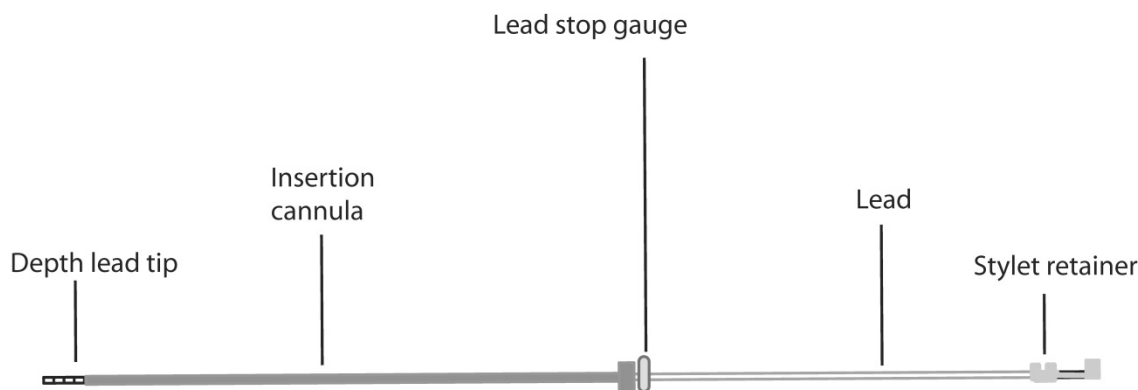

Figure 8: Position the stop gauge directly above the insertion cannula in order to gauge the full insertion distance of the depth lead.
- Before placing the insertion cannula onto the frame, insert the depth lead into the insertion cannula and place the stop gauge (provided) on the lead directly above the cannula, such that the lead tip will reach the implant target after the lead is fully advanced down the cannula. The stop gauge should meet the top of the cannula once the lead is advanced the desired distance (Figure 8).